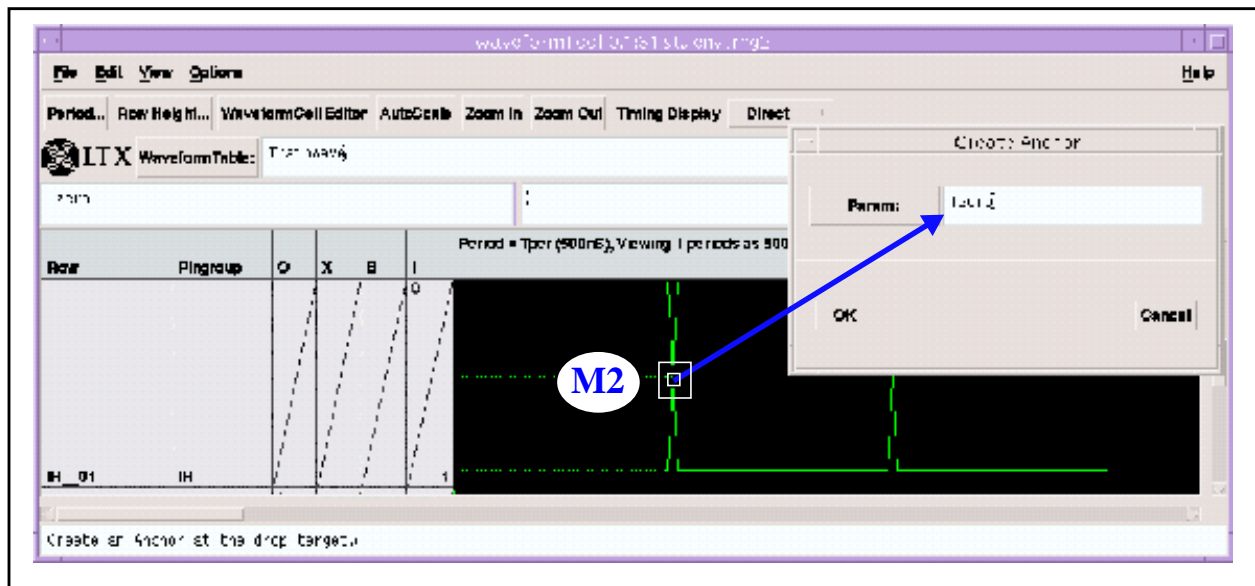

Figure 2.34: Creating an Anchor
3. Select Param: Tzero; see Figure 2.34.